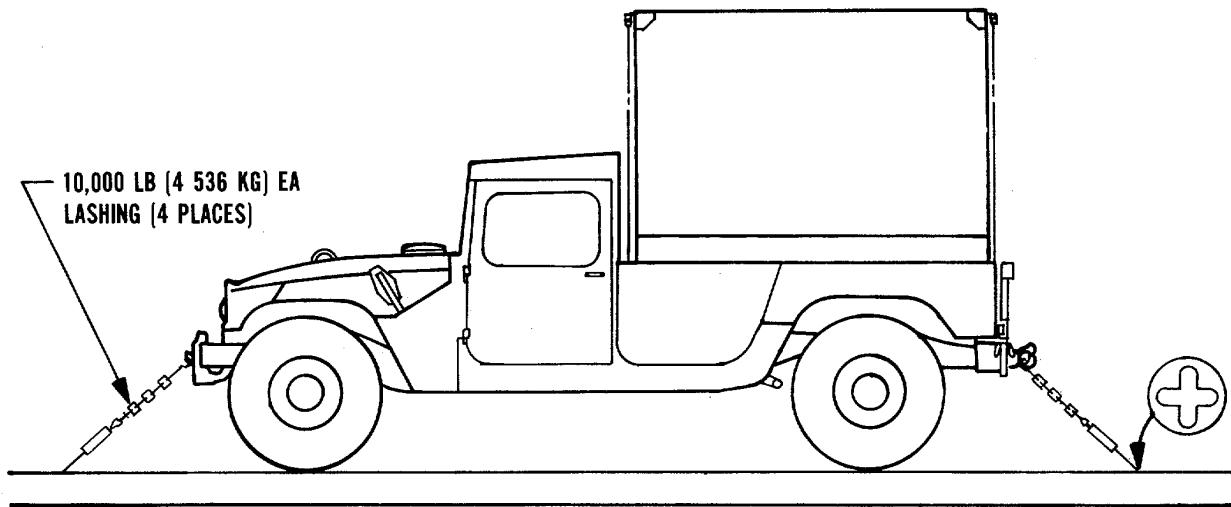

Figure 6-3. Typical tiedown of HMMWV on RORO ship.
- b. *Securing*. RORO, seatrain, landing, and attack cargo ships are equipped with patented lashing gear and pre-positioned fittings in the deck. The use of such equipment and blocking and bracing is not required. Figure 6-3 shows typical tiedown of HMMWVs on a RORO vessel using 10,000-pound-capacity lashings.